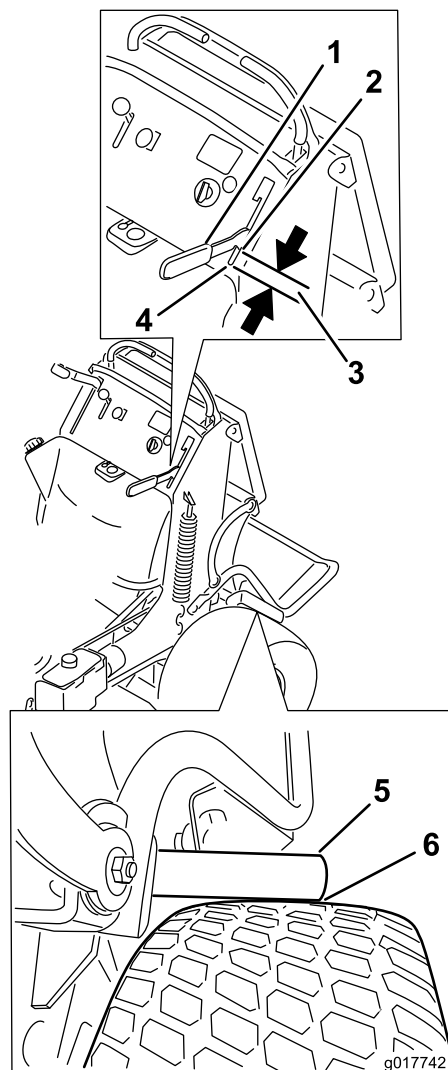

Figure 70
4. Engage the brake lever until the brake bars first contact the tire (Figure 70).
5. Measure the gap from the front of the hand lever to the end of the slot in the control panel when the brake bar contacts the tire. This measurement needs to be 19 mm (3/4 inch). Adjust the brake if needed (Figure 70).